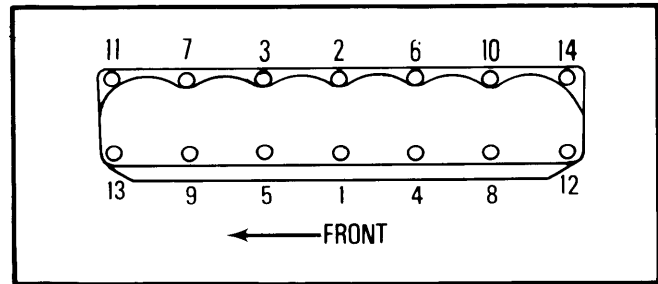

Fig. 2 Cylinder Head Tightening Sequence
4) Coat threads of head bolts with engine oil and install bolts. Tighten cylinder head bolts, in steps, in sequence as shown in Fig. 2. Reverse removal procedure to install remaining components.